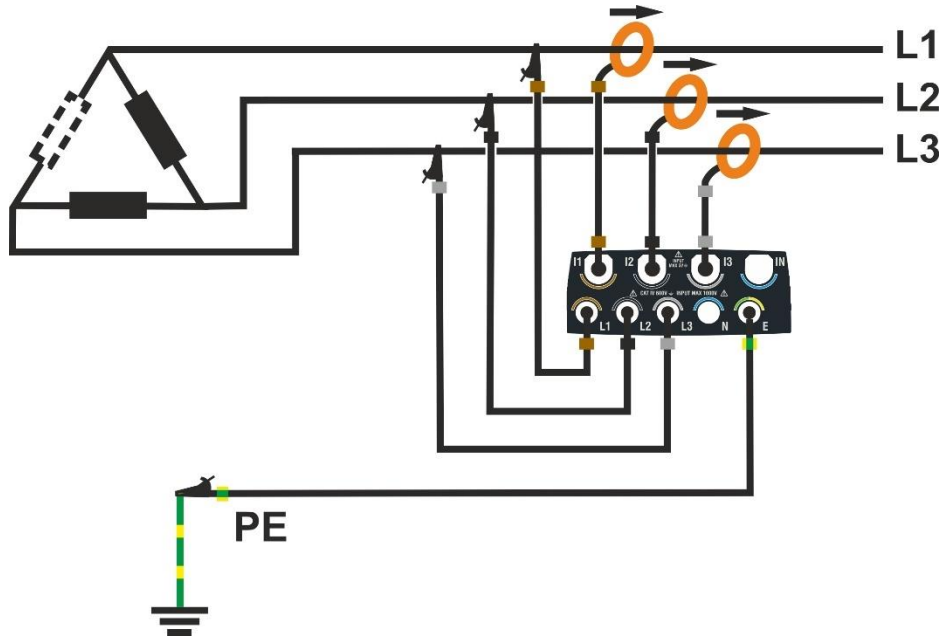

Fig. 67: Connecting the instrument to a Three-Phase 3 Wires Aron system
2. Connect the voltage cables to the L1, L2, L3 and PE conductors as shown in Fig. 67. **Check that the display shows "1-2-3" for the correct cyclic direction of the phases** (see § 5.1.1)